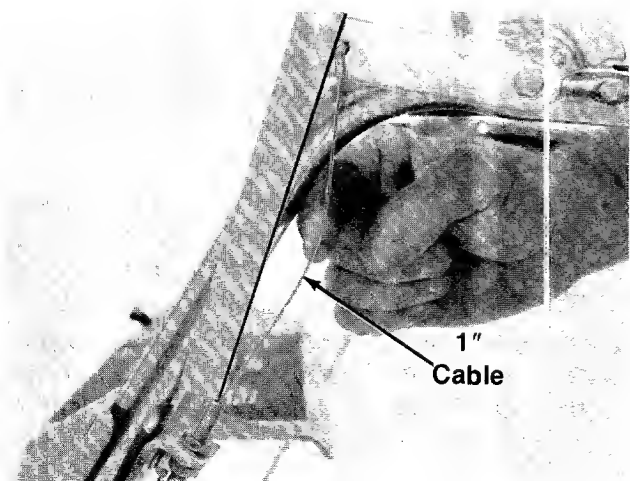

FIGURE 9.
- With the clutch grip in the released (raised) position, the blade clutch control cable should have approximately 1" deflection as shown in figure 9.